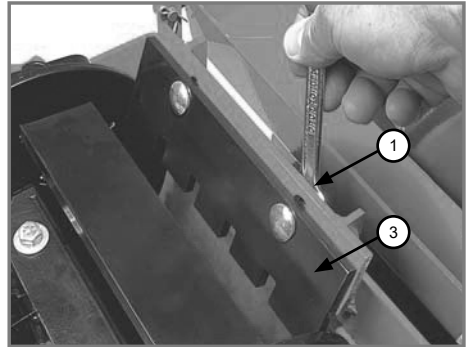
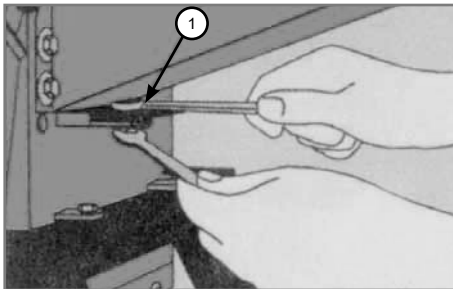
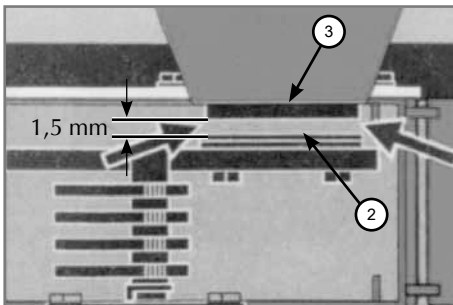

Figure 12
Figure 10
Figure 11
Periodic retightening, as well as setting the counter cutting, are indispensable. The adjustment is made by loosening the hex nut (1) according to figures 10 and 12, moving the counter cutting (3) until the knives (2) pass at a distance of approximately 1.5 mm from the counter cutting (3), according to Figure 11. The counter cutting (3) should be replaced when signs of wear.
After adjusting the distance between the knife and counter-knife and tighten the screws, in the crusher's cutting set (Figure 10) or in the chopper's cutting set (Figure 12) manually turn the cutting disks of both cutting sets so as to verify if all the knives are in the same distance from the counter-knife. If any interference is found in the distance between the knife and the counter-knife, adjust and, then, start the job.